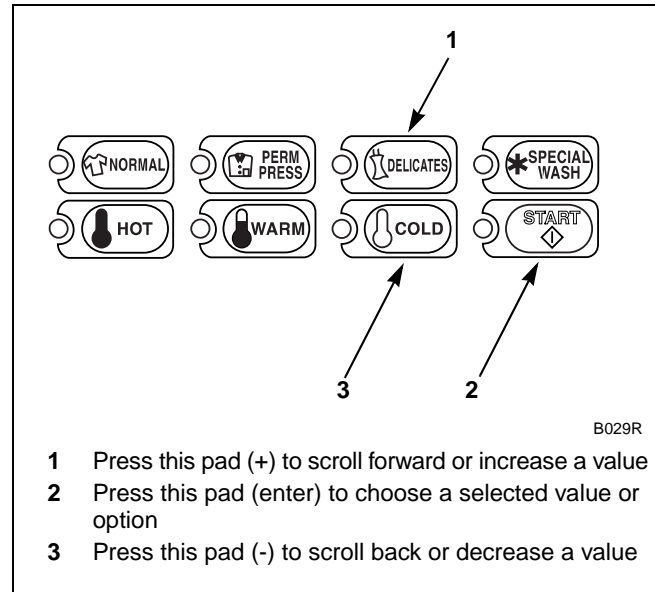

Figure 65
5. Press the DELICATES (+) or the COLD (-) keypad to increase or decrease the current number of minutes displayed in the VFD to the desired number of minutes. Refer to *Figure 65*.
**NOTE: The Permanent Press PreWash #2 Fill/Tumble Time can be set from zero (0) to 15 minutes.**